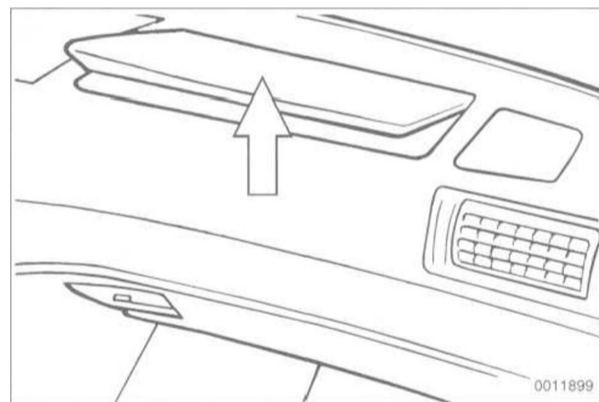

Fig. 5. Passenger's side airbag cover on cars with Airbag II. Carefully lift out cover from front.
2. Carefully lift out cover from top of passenger's side airbag on instrument panel. See Fig. 5.